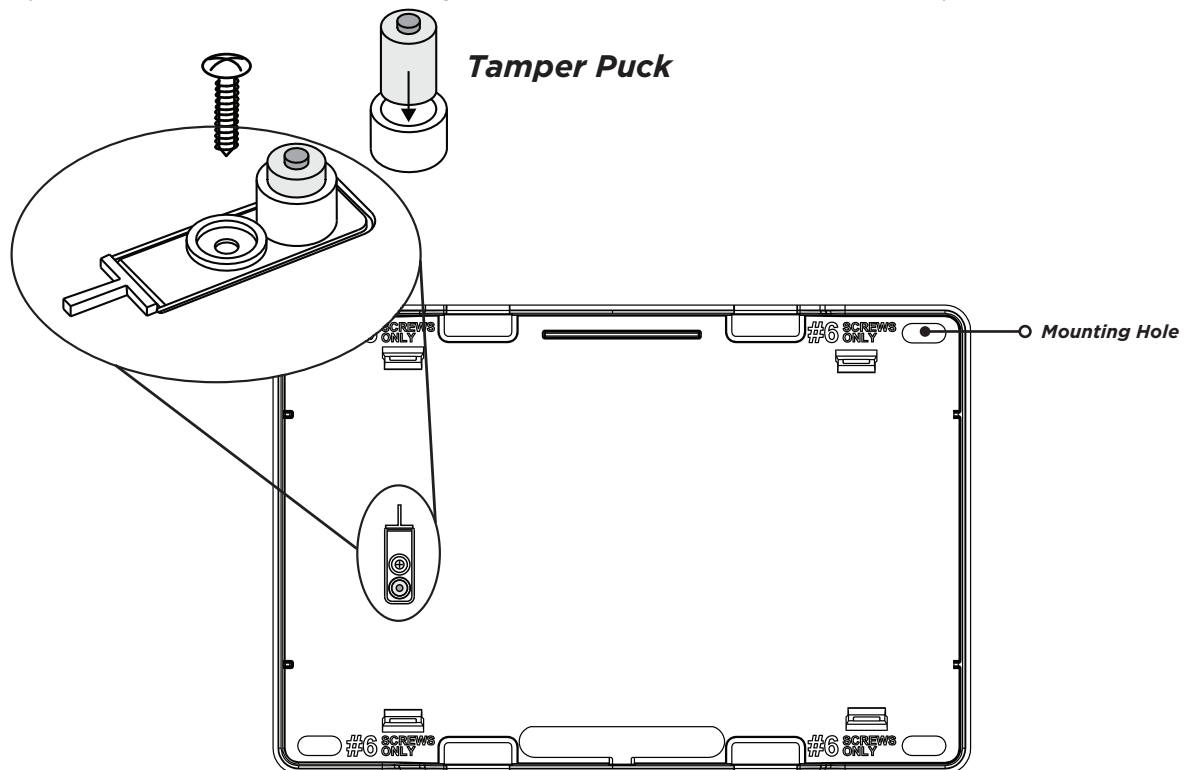

Figure 2: Inside of the 1100XINT Housing
2. Mount the repeater on a flat surface using the supplied screws. See Figure 2 for mounting hole locations.